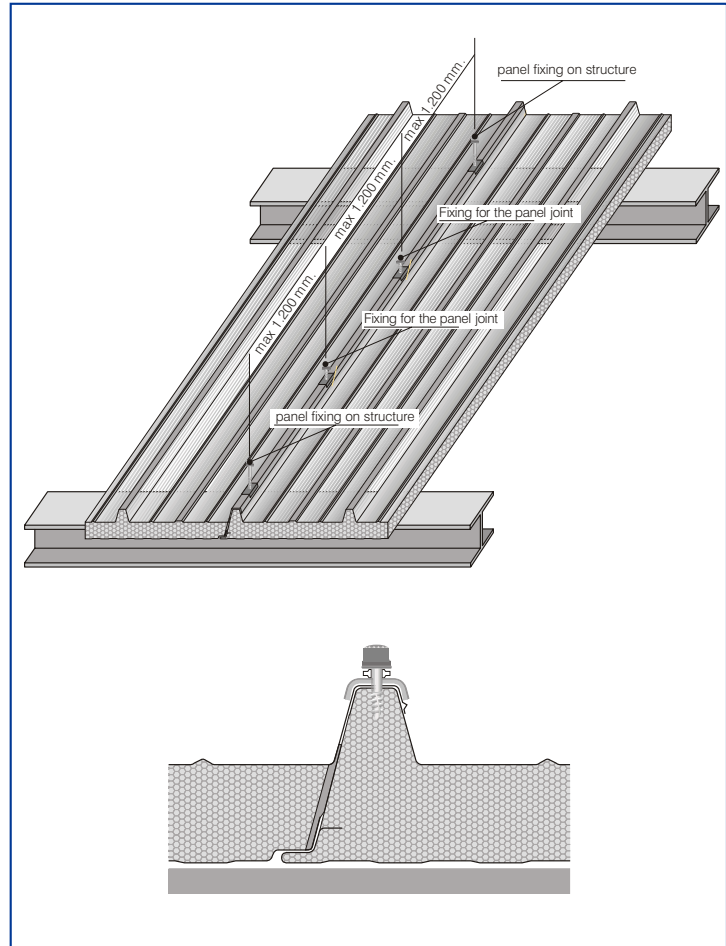

Fig. 15
- 4.1.4.8 To ensure a uniform effect of the roof panels, the overlapped panels are connected together by a further stitching screw, diam. 6,3x20 plus cap and washer, between one purlin and the next. (Fig.15).